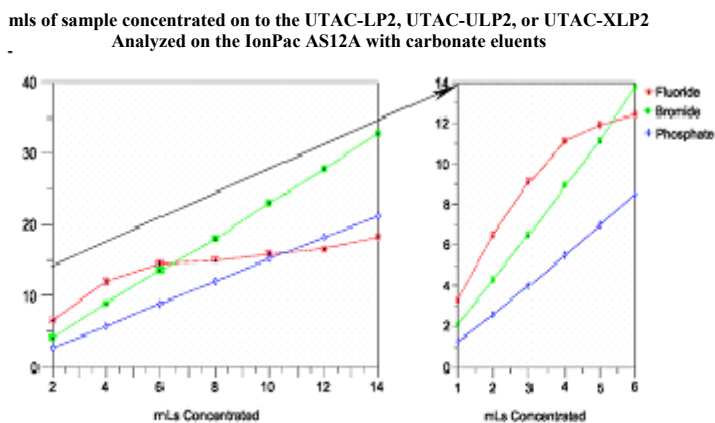

FIGURE 8
- D. A plot of response versus concentration should be generated as in Figure 8, "Linearity Determinations for Concentrator Injection", for the determination of the maximum amount of sample or standard that can be quantitatively loaded. In Figure 8, the break in the curve where linearity starts to change is at a concentration volume of 2 mL of 30 $\mu\text{g/L}$ fluoride. For practical purposes, the amount concentrated for a series of samples should be 75% of this value. This will ensure that there is a safety margin built into the concentration process in case a sample in a series of concentration experiments has a slightly higher ionic concentration.